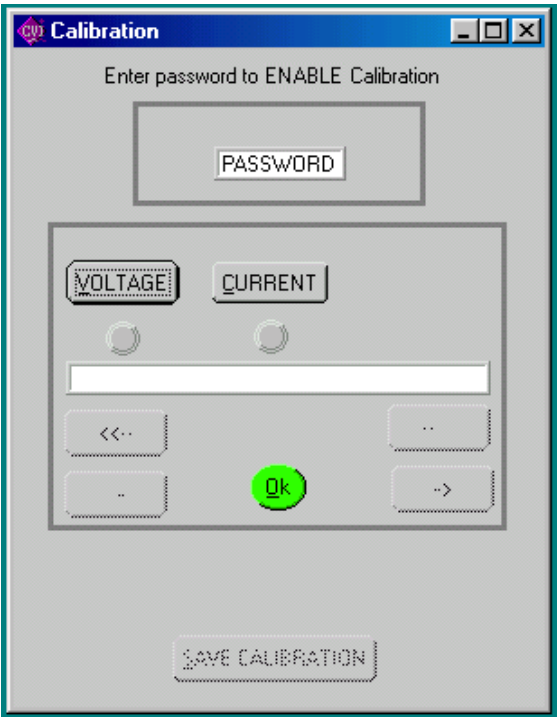

FIGURE 7. CALIBRATION WINDOW (HALF RACK)
2.2.7 The **Calibrate** button The **Calibrate** button opens the Calibration Window (Figure 7), and is used to recalibrate the unit (see Section 4 of the BHK Technical Manual).